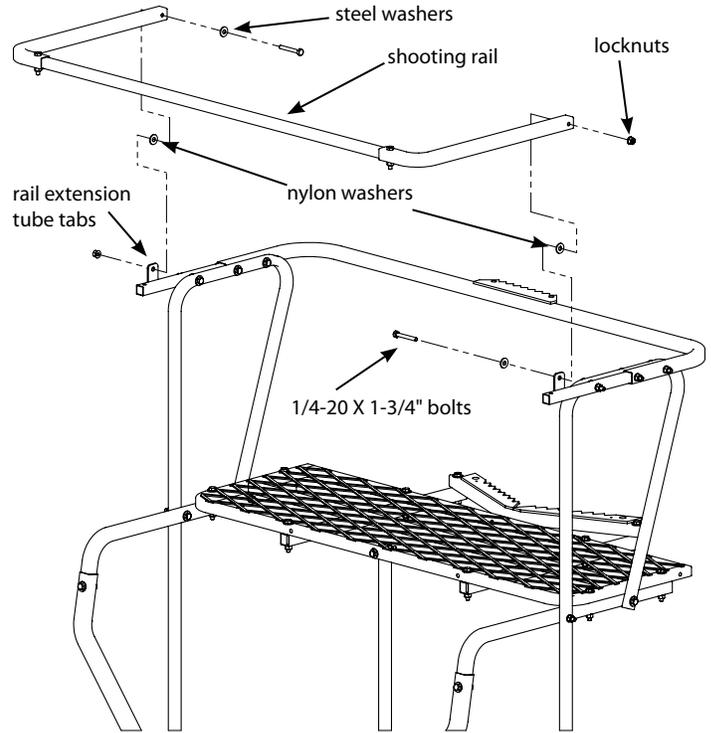
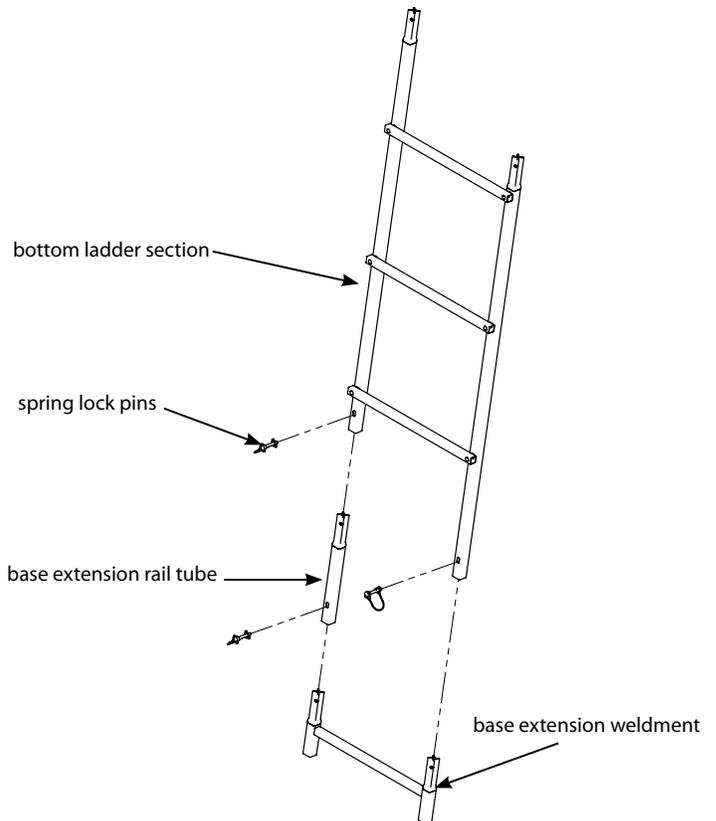

Figure 7
Figure 8
10. Attach the previously assembled shooting rail to the tabs located on the shooting rail extension tubes using (2) provided 1/4-20 x 1-3/4" bolts, locknuts, steel washers and nylon washers. **You must now tighten all nut and bolt combinations completely. Be sure not to over tighten or crush tubing when tightening. SEE FIGURE 7.**
- b. Attach the (2) provided 9" and (1) provided 36" camo foam sleeves to the side loop frames and shooting rail by wrapping around square tubing and attaching Velcro together.
12. Insert one side of the base extension weldment (410044) into the base extension rail tube (410040) and secure with (1) spring lock pin. Handle of spring lock pin must be put to the outside of long rail. **SEE FIGURE 8.**
13. Take the factory assembled ladder sections and unfold them to their full, deployed width. Insert the previously assembled base extension into (1) 3-step ladder section (410032). **SEE FIGURE 8.** This step now makes this the bottom ladder section.